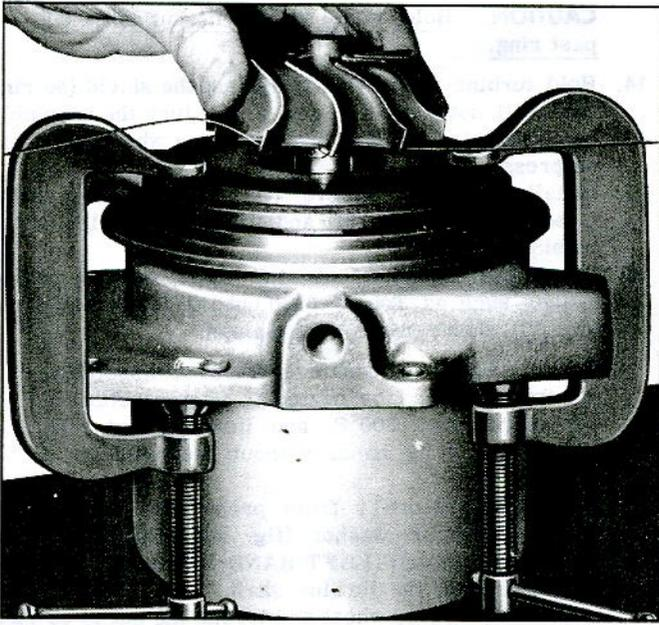

Fig. 51—Installation of Turbine Wheel and Shaft
- Lubricate the shaft (bearing area) and carefully install through the bearing (fig. 51). The plastic ring is left on the shaft after installation since it will burn away. If wire is used, remove the wire by a reverse twist and slide it out from between shield and wheel.